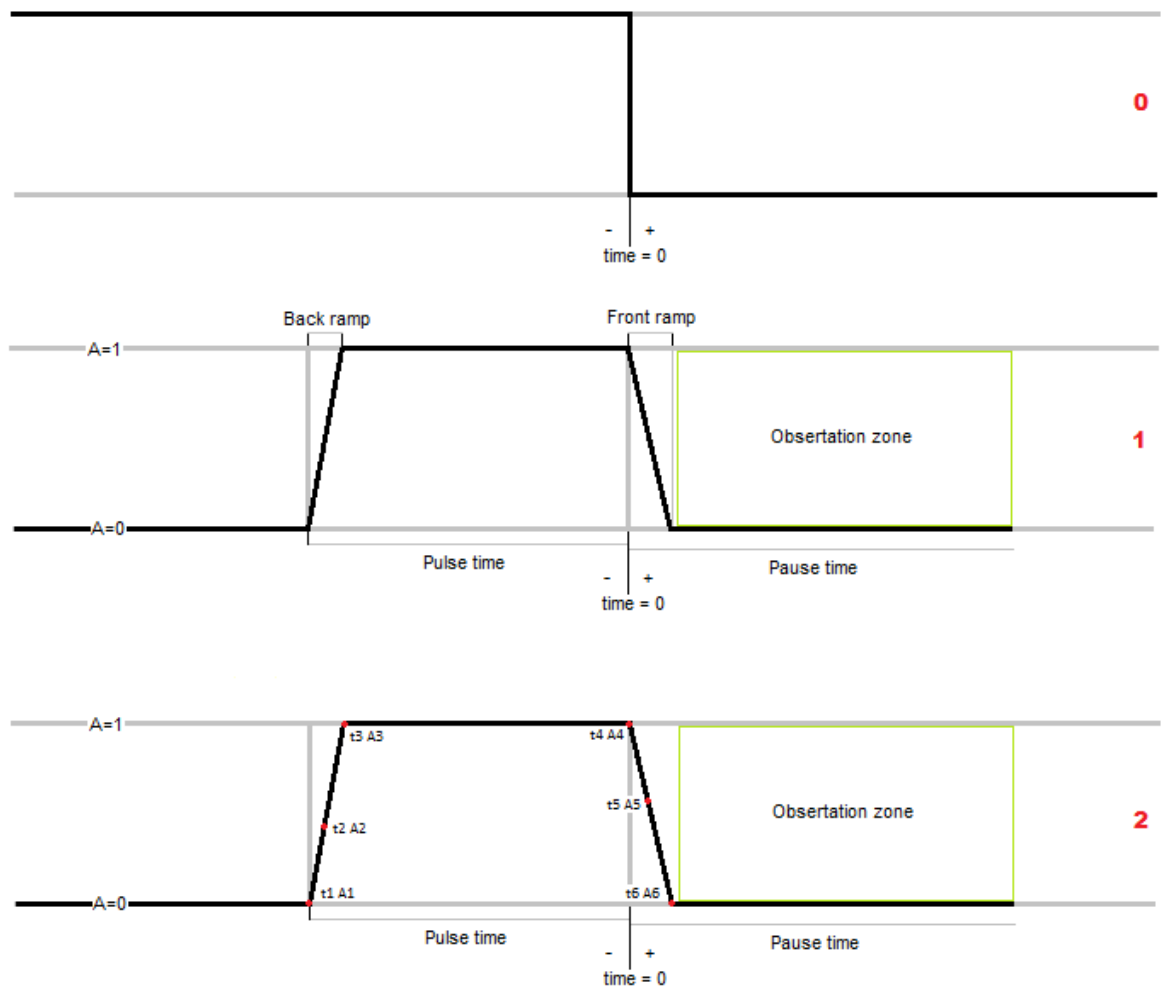

Fig. 3 Time characteristic of used pulses: 0 – step, 1 – rectangular pulse finite length, 2 – free-form pulse
**First line** – pulse type. 0 – step, 1 – rectangular finite pulse, 2 – free-form pulse (fig. 3).